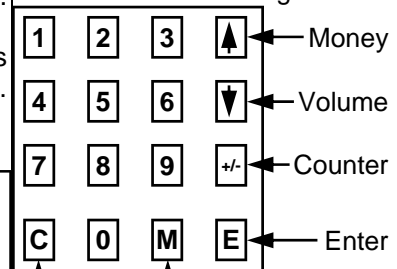
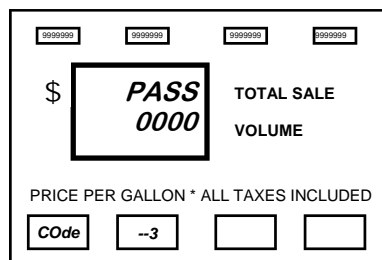

Figure 3.4
Figure 3.5
4. Press the **↑** button (see Figure 3.4). The display show all zeros. See Figure 3.5.